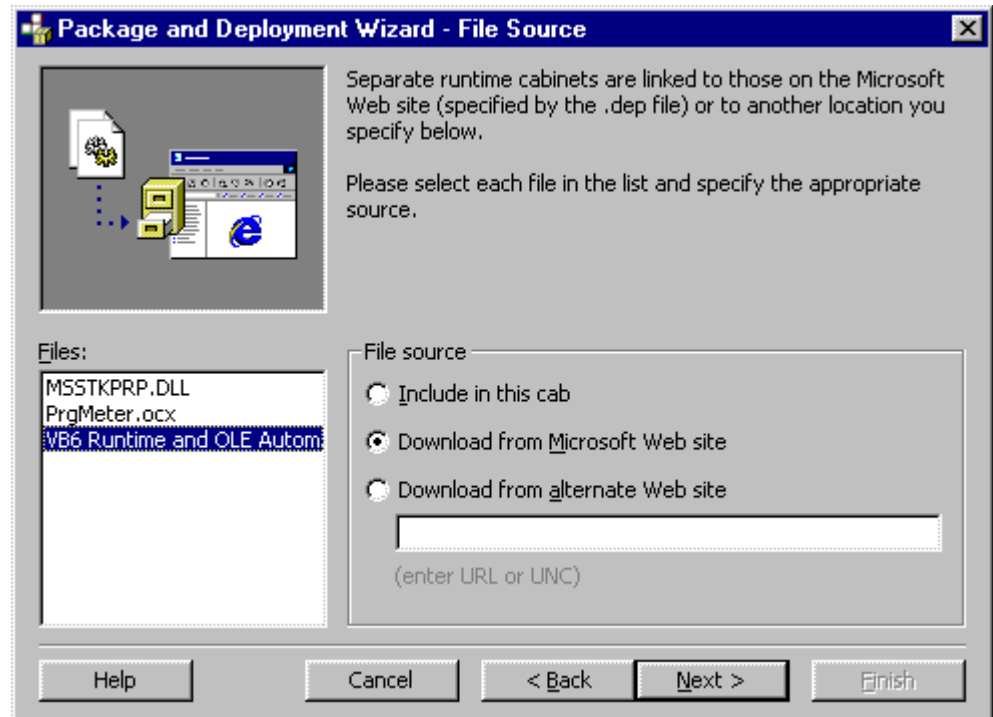

Figure 22. Let users download run-time components from Microsoft.
3. On the File Source page (see Figure 22), choose the download location for run-time components. Unless you're in an Intranet environment, you don't want people downloading Microsoft's components from your web site (they have a lot more bandwidth than you do!). In addition, if you have people download them from Microsoft's site, they're guaranteed to get the most current versions.